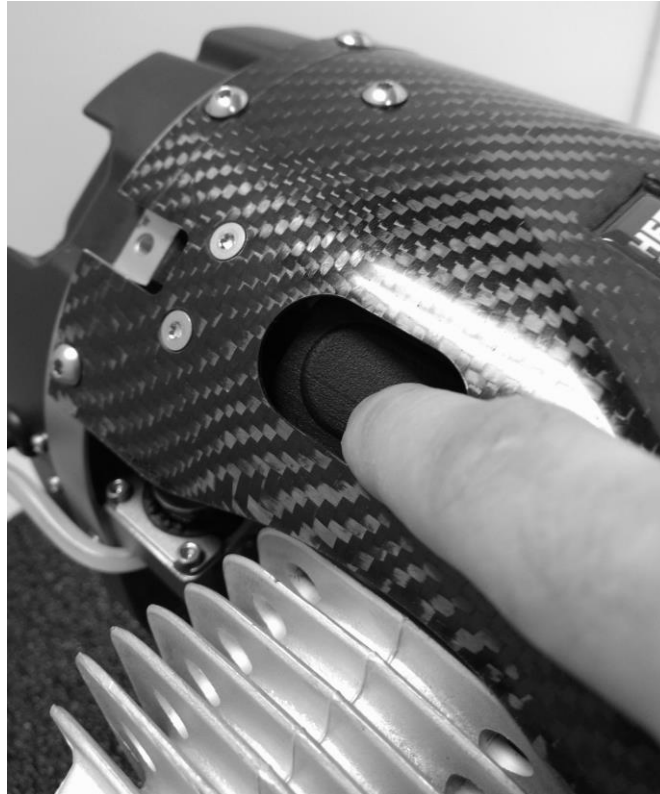

Figure 8: Genpod® Buttons
2. Press the buttons as seen in **Figure 8** to lift the latches up. While supporting the Genpod®, lean the Genpod® forward.